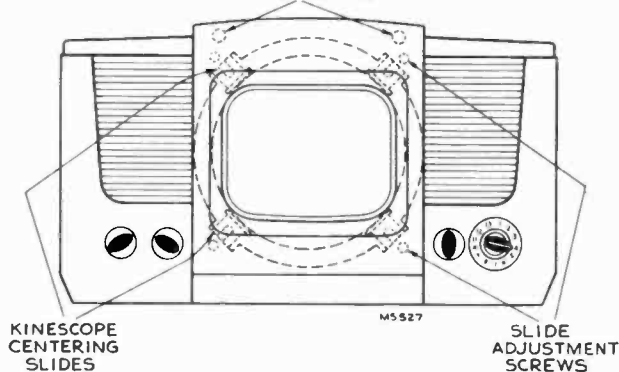

Figure 3—Cabinet, Front View
Loosen the two lower kinescope face centering slides, and set them at approximately mid position. See Figure 3 for location of the slides and their adjustment screws.
Install the cabinet front panel as indicated in Figure 3.
top in. Insert the two screws from the bag with the knobs into the back of panel as shown in Figure 3.
**Service Precautions**—If necessary to remove the chassis from cabinet, the kinescope must first be removed. See Figures 3 and 5. If possible, the chassis should then be serviced without the kinescope. However, if it is necessary to view the raster during servicing, the kinescope should be inserted only after the chassis is turned on end. The kinescope should never be allowed to support its weight by resting in the deflecting yoke. A bracket should be used to support the tube at its viewing screen.